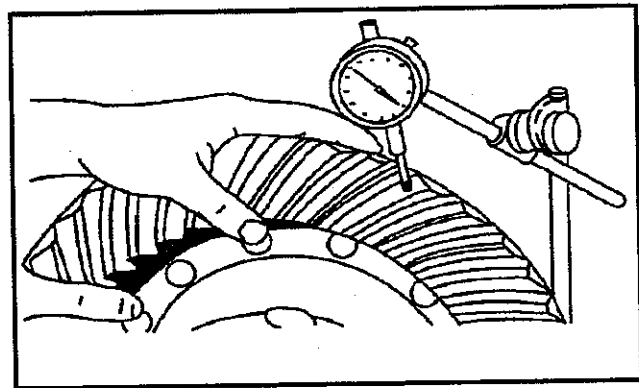

Figure 28—Check Backlash
12. Check ring gear and pinion backlash in four equal space positions around the ring gear. Use a dial indicator. (See Figure 28—Check Backlash.)